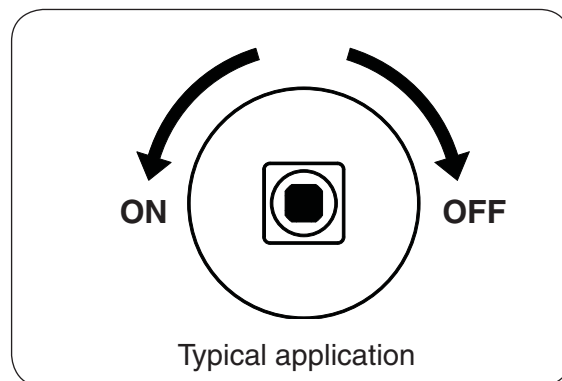

Fig. 15-2
4. **Once the match is burning and in position**, slowly turn the key valve counter-clockwise toward the **ON** position until it no longer rotates (see Fig. 15-2). Your burner should light.
**WARNING:** If the burner does not light within (5) seconds of turning on the key valve, immediately turn the key valve clockwise toward the **OFF** position until it no longer rotates.
**To extinguish your gas burner**, turn the key valve clockwise toward the **OFF** position until it no longer rotates (see Fig. 15-2). Be sure the key valve is turned fully off to avoid any gas leakage.